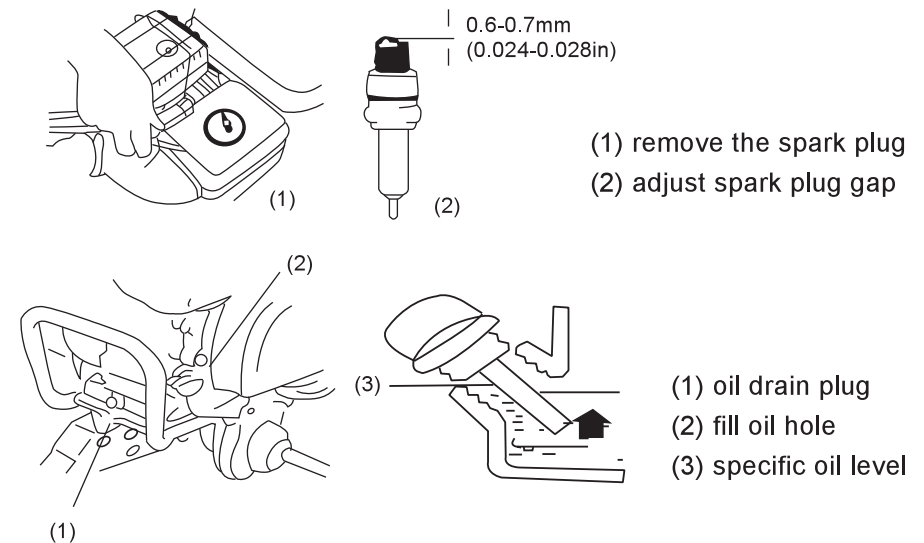

Figure 4-1
4.3 Check the spark plug after every 50 hours running. Remove its carbon deposits and adjust its gap to 0.6~0.7 mm. (Refer to Figure 4-1). Check the radiating fins and remove the dirt on them.